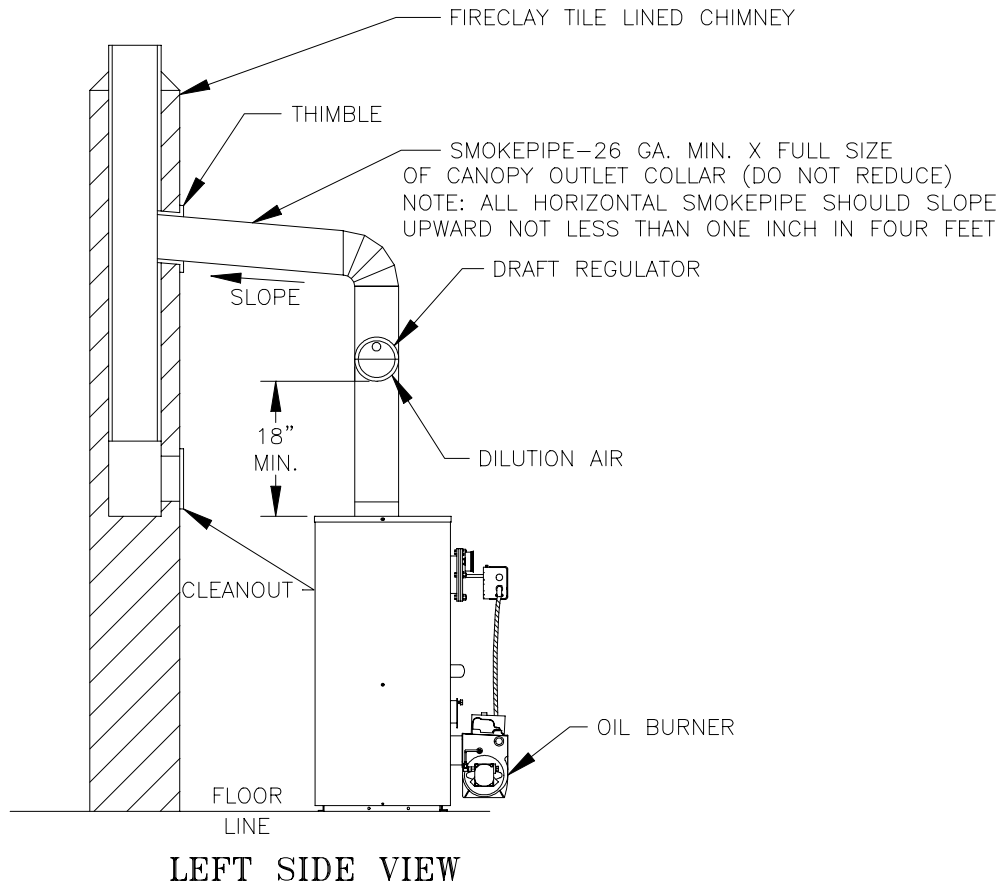

Figure 12: Recommended Smokepipe Arrangement and Chimney Requirements
2. The RSA Series is designed to be vented into a fireclay tile-lined masonry chimney or chimney constructed from type-L vent or a factory built chimney that complies with the type HT requirements of UL103. The chimney or vent pipe shall have a sufficient draft at all times, to assure safe proper operation of the boiler. See Figure 12 for recommended installation.